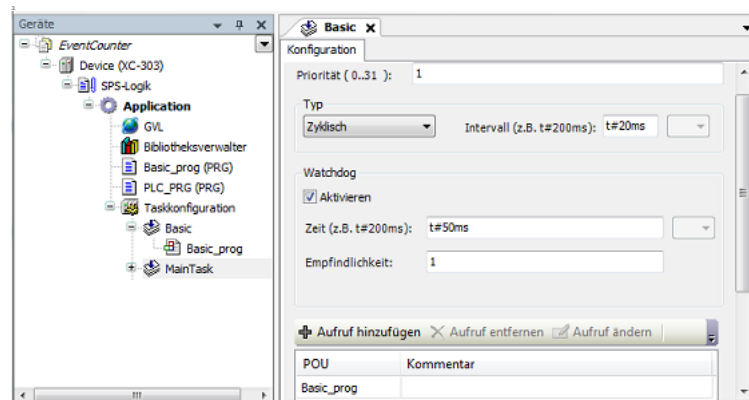

Figure 48: Configuring the cyclical task with a program call
- ▶ Set the task in the dialog as in Figure 48.